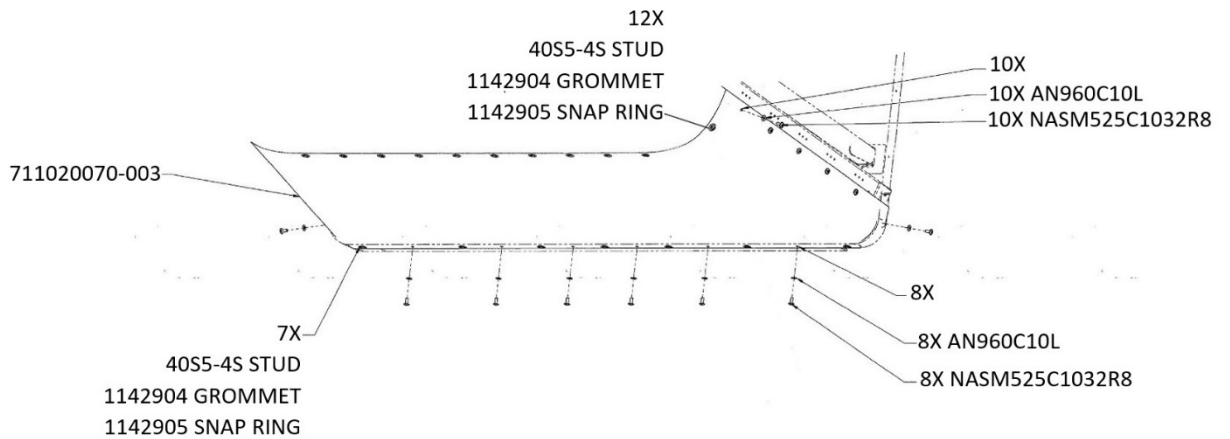

Figure 8-22
- U. Prepare AFT Cowl Skin 711020070-003 for installation. See Figure 8-22.
- Match drill (18) .1935" dia. holes at AFT firewall and C-Channel nutplate locations.
- Match drill (19) (12mm) .471" dia. holes at Cowl Support Assembly Camloc locations and AFT Firewall locations.